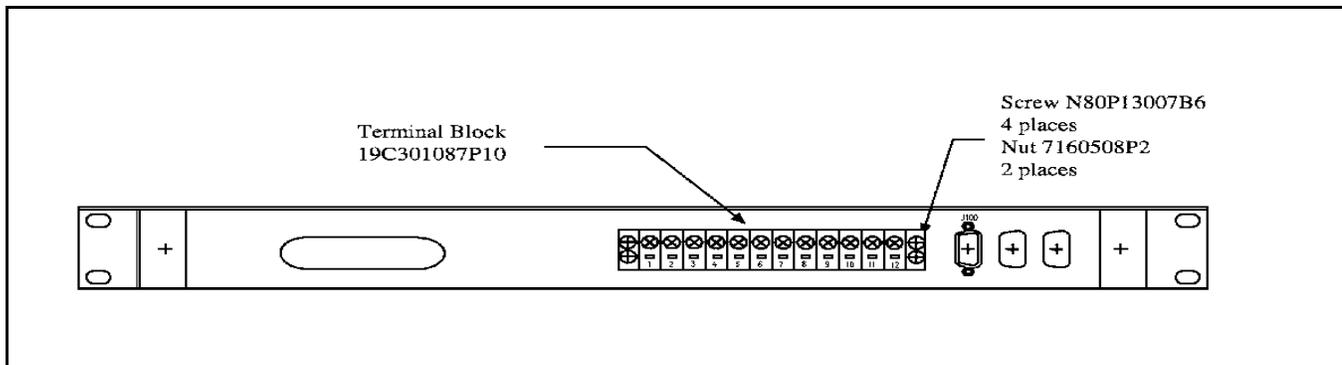
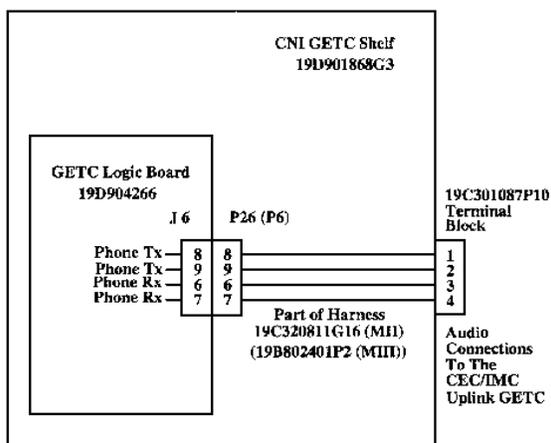

Figure 5 - GETC Shelf (Rear View)
Figure 6 - Simplified Diagram of Modified Harness
1. Mount the Terminal block, 19C301087P10, on the back of the GETC Shelf using the four (4) screws, N80P13007B6, and two (2) nuts, 7160508P2 provided. Refer to Figure 5.
2. Disconnect the two (2) pairs of twisted wire connected to P26-6, P26-7, P26 8 and P26-9 (part of cable harness 19C320811G15/G16) from the Backplane (19D417214) TB1201-18, -17, 11, and 10 or from the Control Panel (19B234871) or MIIe Backplane (19D902459) TB1201-5, -2, -3, and -4 respectively.
3. Connect the pair from P26-8 and P26-9 to the terminal block terminals 1 and 2 respectively. This is the GETC Transmit Data pair, see Figure 6.
1. Route the header (P26) on the Harness 19C337792P1 through the terminal block hole and mount the terminal block to the back of the GETC Shelf using the four (4) screws, N80P13007B6, and two (2) nuts, 7160508P2 provided. Refer to Figure 5.
2. Remove the contacts (4) from the header (P26) on the harness 19C337792P1.
3. Remove contacts from 19B802401P1, P6-8 and P6-9. This is the GETC Transmit Data pair, see Figure 6.